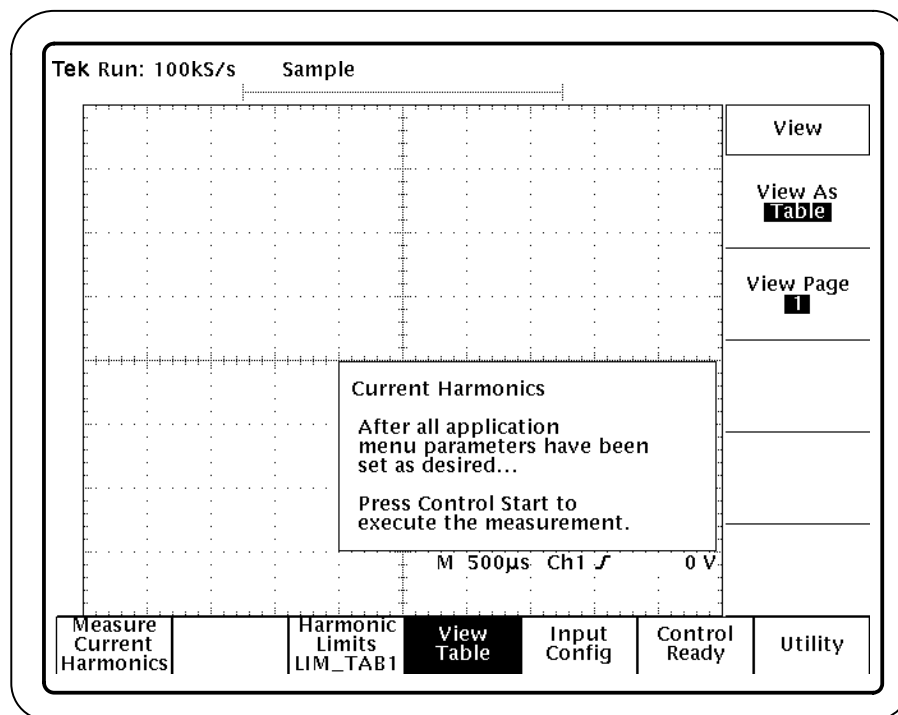

Figure 34: Current Harmonics View menu
7. Press View (main). You can use the View menu to choose the format of the results as tabular or graphical. Figure 34 shows the View menu.